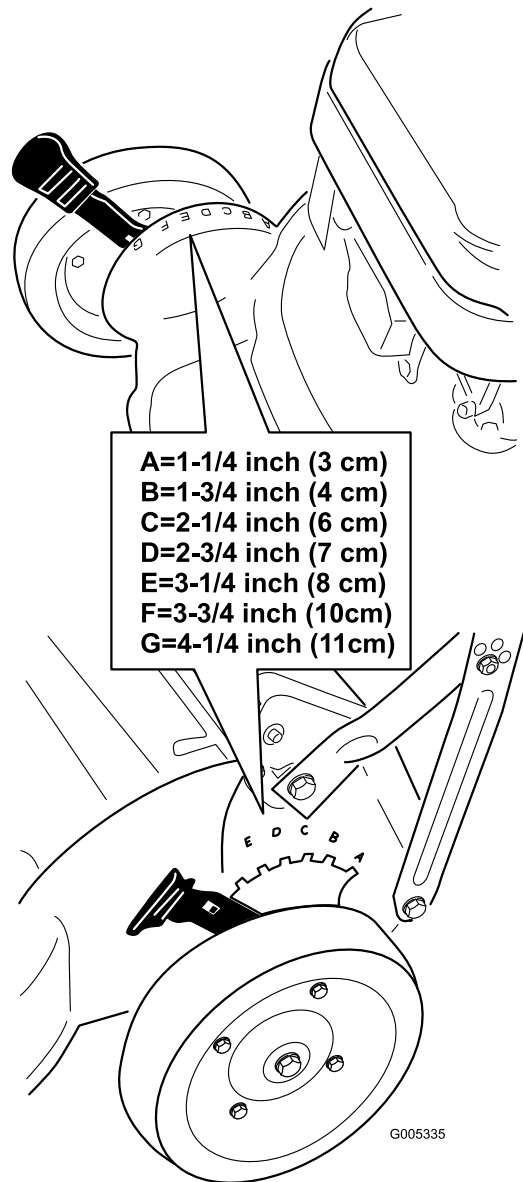

Figure 21
**Note:** To raise the mower, move all 4 cutting height levers forward; to lower the mower, move them all rearward (Figure 21).